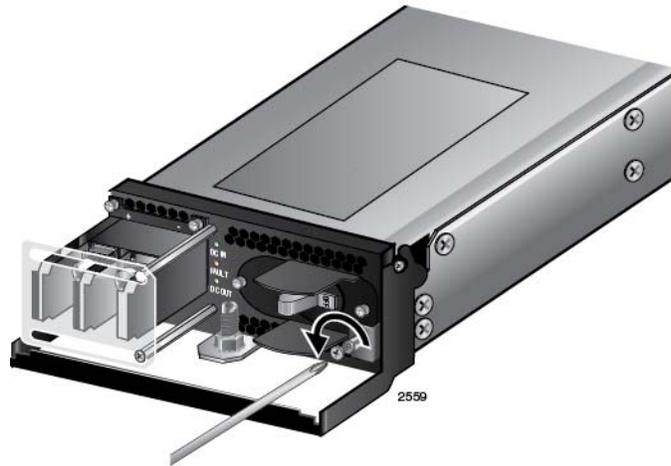

Figure 61. Loosening the Handle locking Screw on the AT-SBxPWRPOE1 DC Power Supply
4. With a #2 Phillips-head screwdriver, loosen the handle locking screw on the power supply, as shown in Figure 61 on page 106.